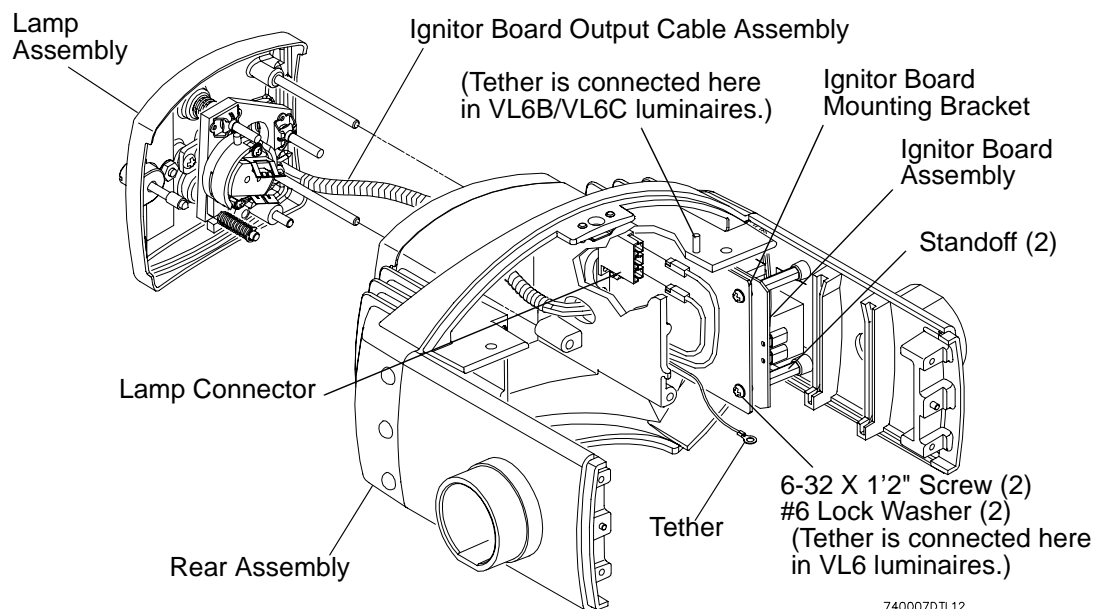

Figure 2-20: Ignitor Board Assembly Replacement
- Step 7. At ignitor board assembly, using #2 Phillips screwdriver, remove two 6-32 X 1/2" PPZ screws and two #6 lock washers securing ignitor board assembly to standoffs. (Also secures tether and safety ground cable in VL6 luminaires.) **Figure 2-20.**